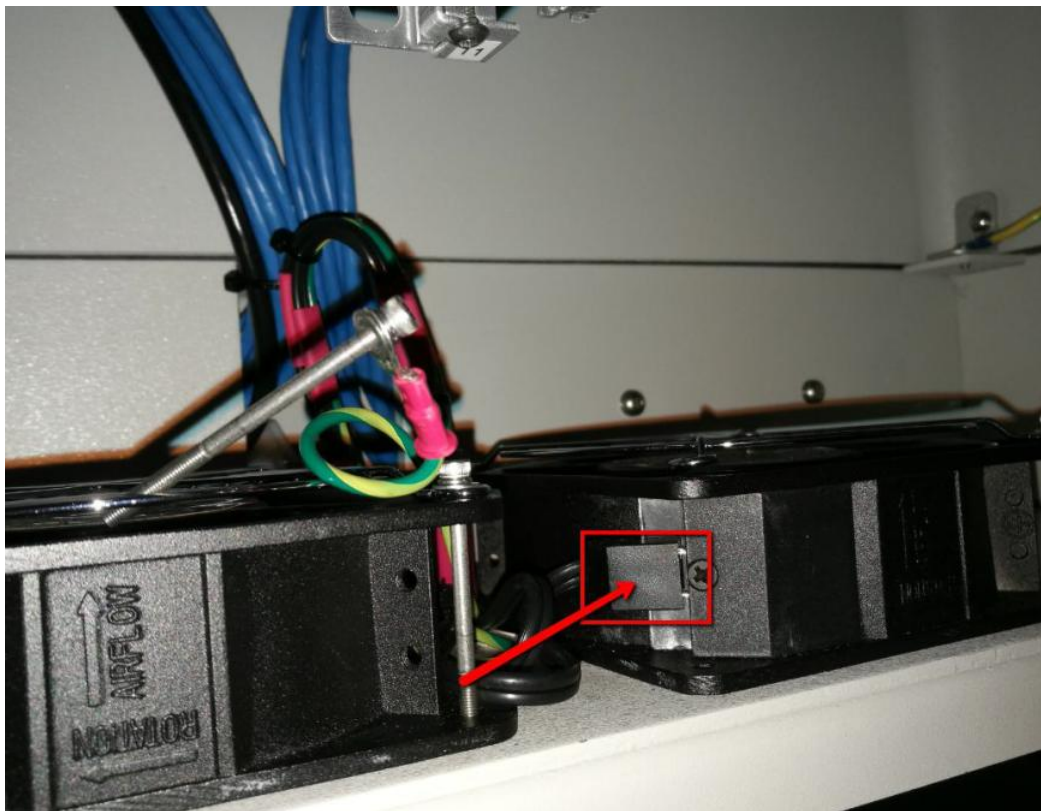

Figure 4 Power cable removal
6. Unplug Power cable & remove X-ray Camera Fan as shown in Figure 4.